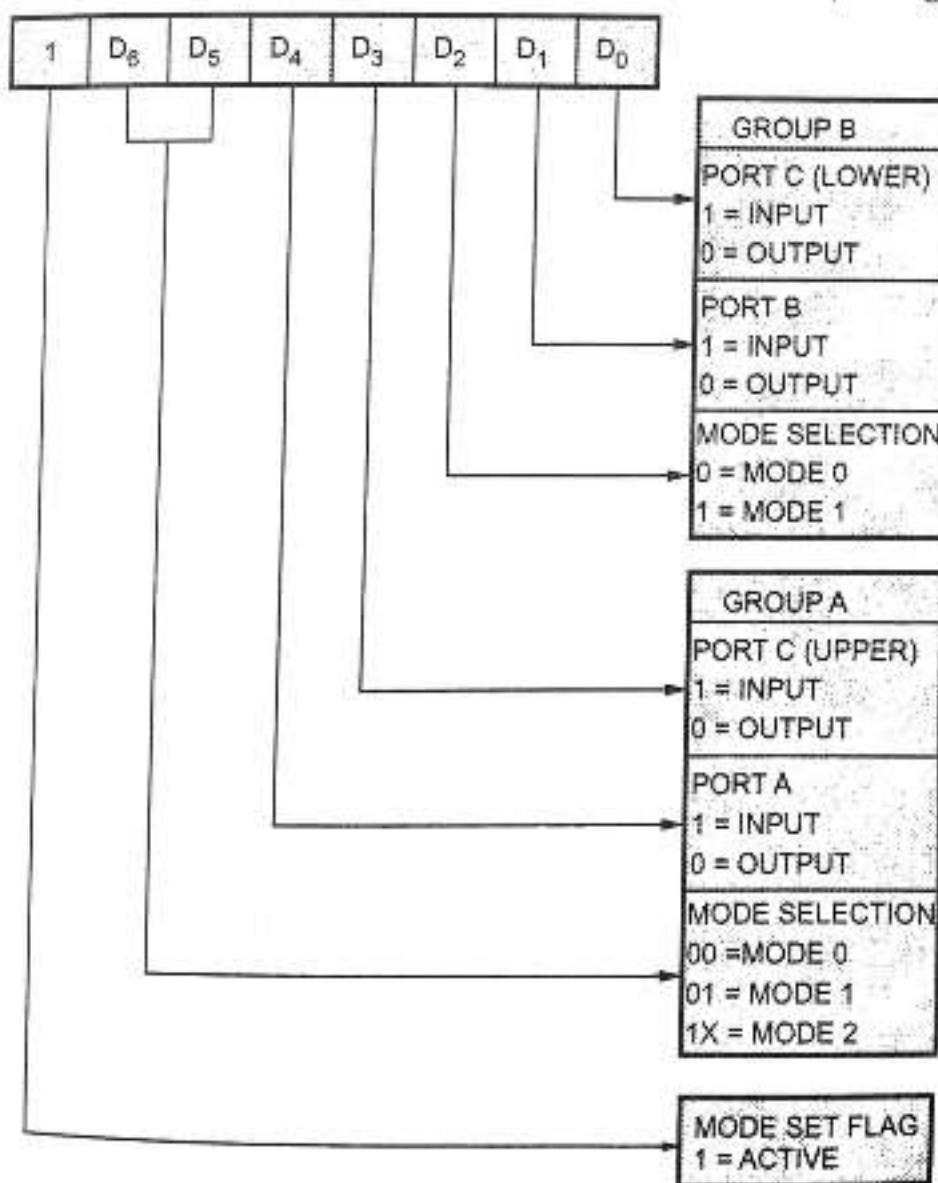

Fig. 3.4.5 8255 Mode definition format
- The mode definition format for I/O mode is shown in Fig. 3.4.5. The control words for both, mode definition and bit set-reset are loaded into the same control register, with bit D_7 used for specifying whether the word loaded into the control register is a mode definition word or bit set-reset word. If D_7 is high, the word is
taken as a mode definition word, and if it is low, it is taken as a bit set-reset word. The appropriate bits are set or reset depending on the type of operation desired, and loaded into the control register. (See Fig. 3.4.5 on previous page).